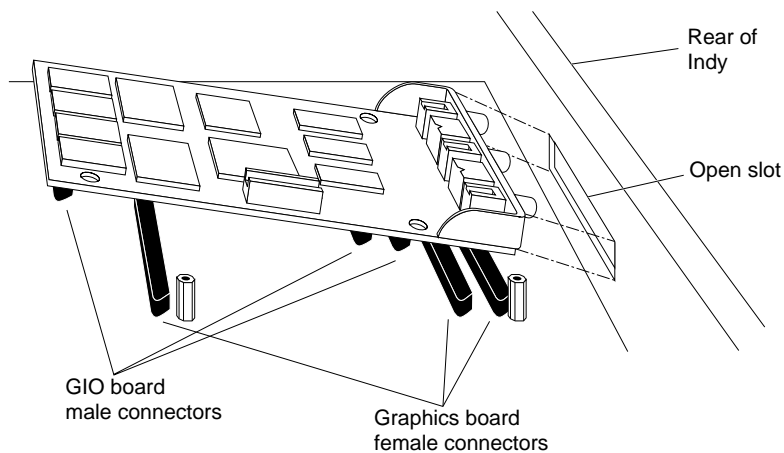
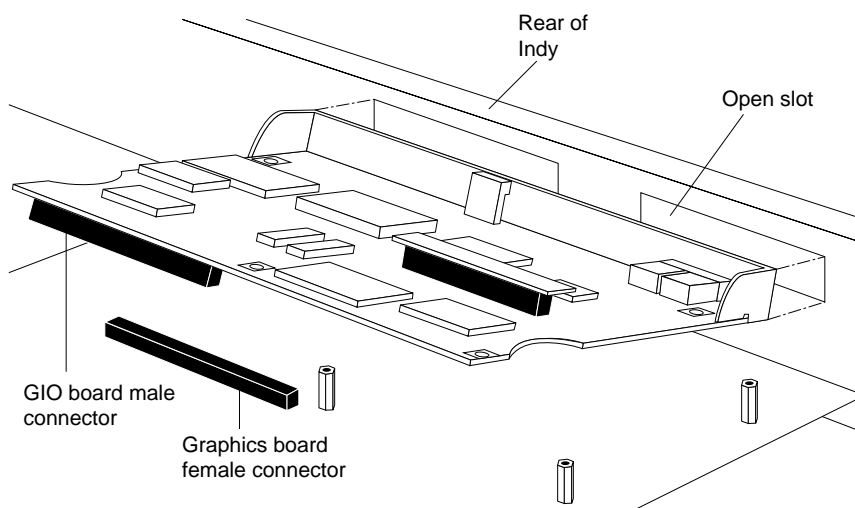

Figure 4-3 Positioning a Single-Width Board
Figure 4-4 Positioning a Double-Width Board
7. Lower the GIO option board over the graphics board, inserting the GIO board's I/O connector through the open slot on the rear of the workstation. Figure 4-3 shows a single-width board. Figure 4-4 shows a double-width board.